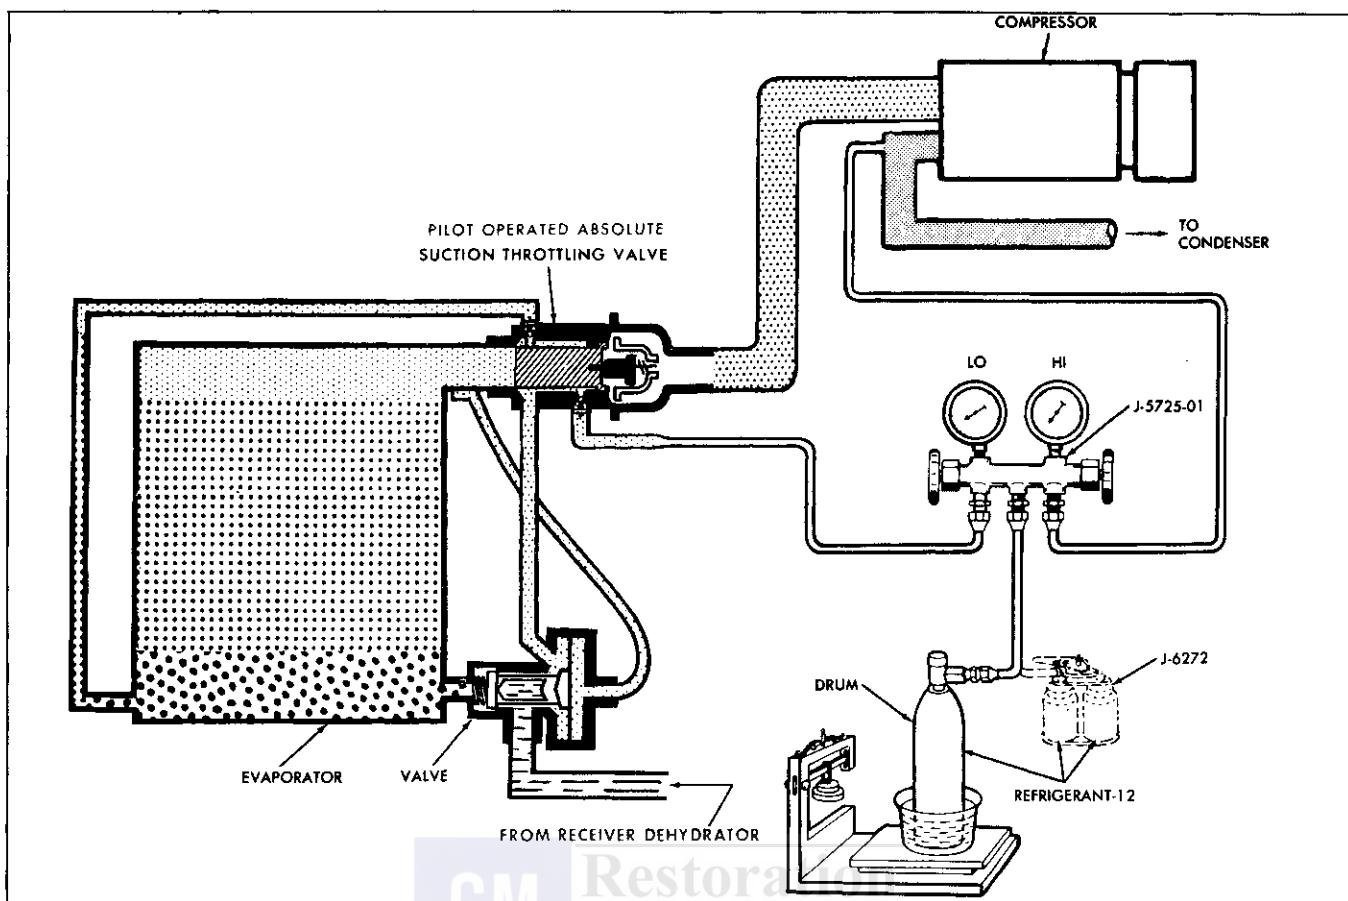

Fig. 1A-3 Schematic - Charging Refrigeration System
3. Place refrigerant drum (in pail of water) on scales (bathroom or commercial, preferably commercial), Fig. 1A-3.